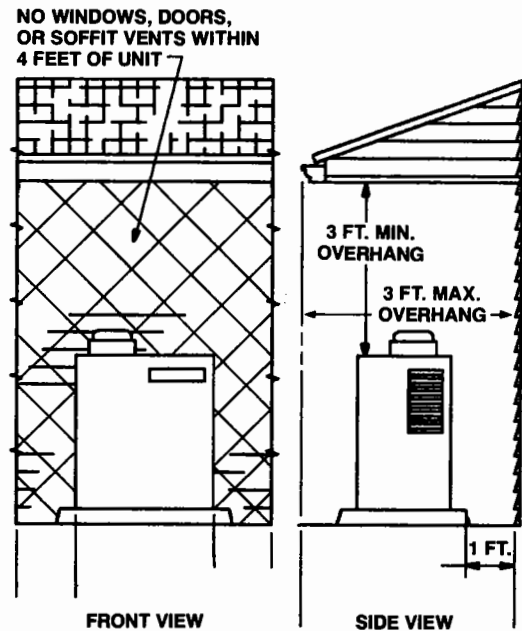

FIGURE 5
This unit is approved for outdoor installation only. An extension of the flue cap or addition of a flue pipe is not sanctioned or approved. The outdoor unit should be installed on a concrete slab at least 2" larger than the unit on all sides. In addition to the picture shown (Fig. 5) for required clearances to the unit, the unit must be at least four (4) feet horizontally from a window, door, soffit vent or other air opening into the building. No wood patio should be constructed over the unit at a later date. Maintain service clearance of 36" from the front of the unit. Maintain clearance of 6" on all sides for proper airflow.